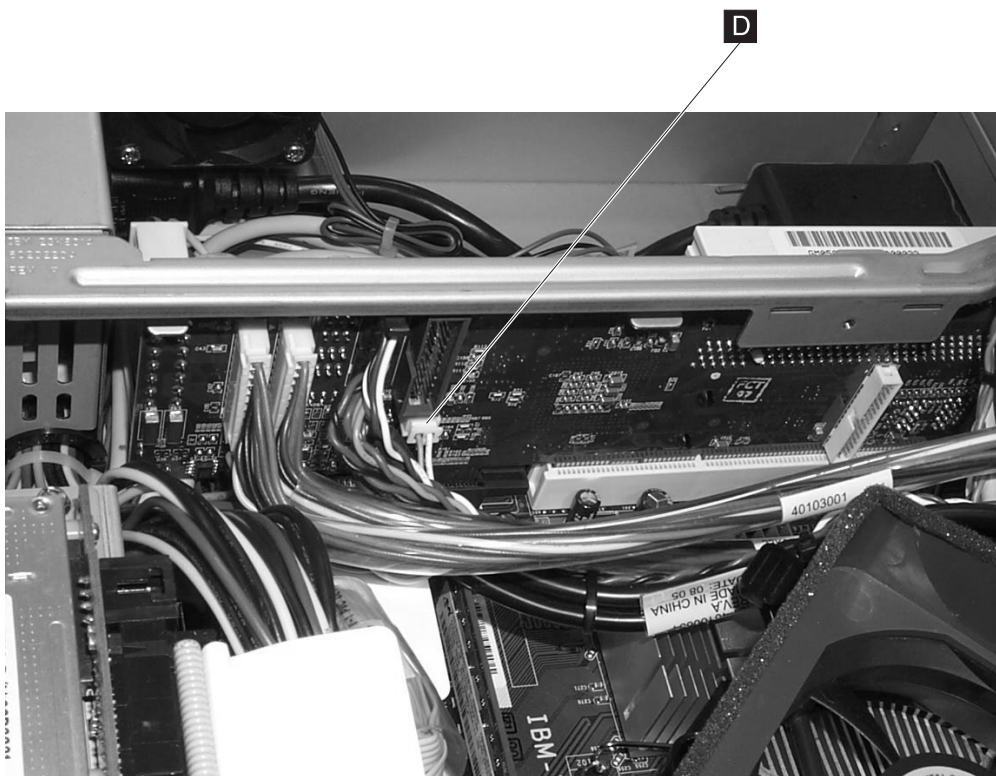

Figure 42. Dump switch
8. Unplug the dump switch from the riser card. See **D** in Figure 42.